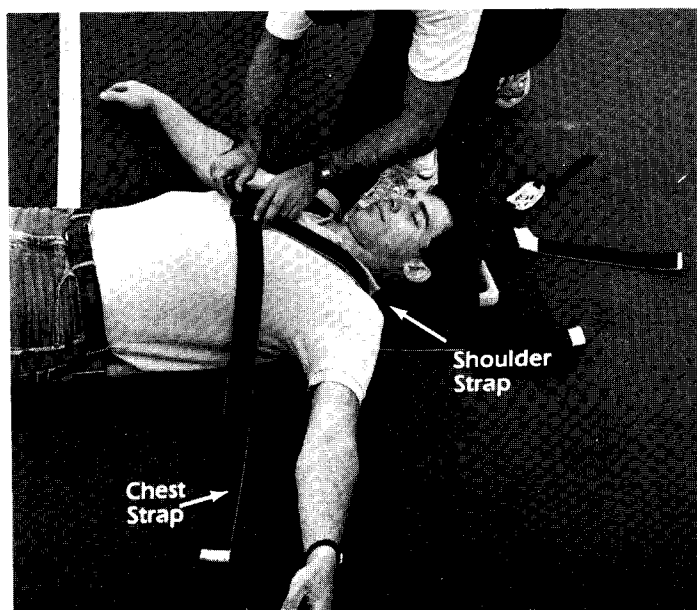

Figure 3.1
3.1 Place the chest strap loosely over the victim's chest, excluding the arms, allowing for proper placement of the shoulder straps. (Figure 3.1)